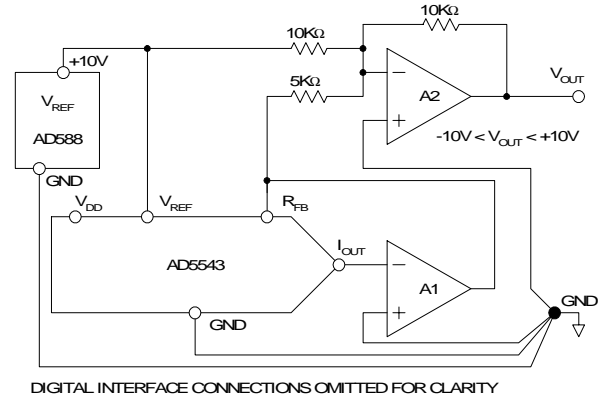

Figure 8. Four-Quadrant Multiplying Application Circuit
is easily accomplished using an additional external amplifier (A2) configured as a summing amplifier, see figure 8. In this circuit the second amplifier (A2) provides a gain of 2 which increases the output span magnitude to 20 volts. Biasing the external amplifier with a 10V offset from the reference voltage results in a full 4-quadrant multiplying circuit. The transfer equation of this circuit shows that both negative and positive output voltages are created as the input data (D) is incremented from code zero ($V_{OUT} = -10V$) to midscale ($V_{OUT} = 0V$) to full-scale ($V_{OUT} = +10V$).
A star ground approach should be used as shown in figure 8. The PCB metal traces between V_{REF} and R_{FB} should match in order to minimize gain error.